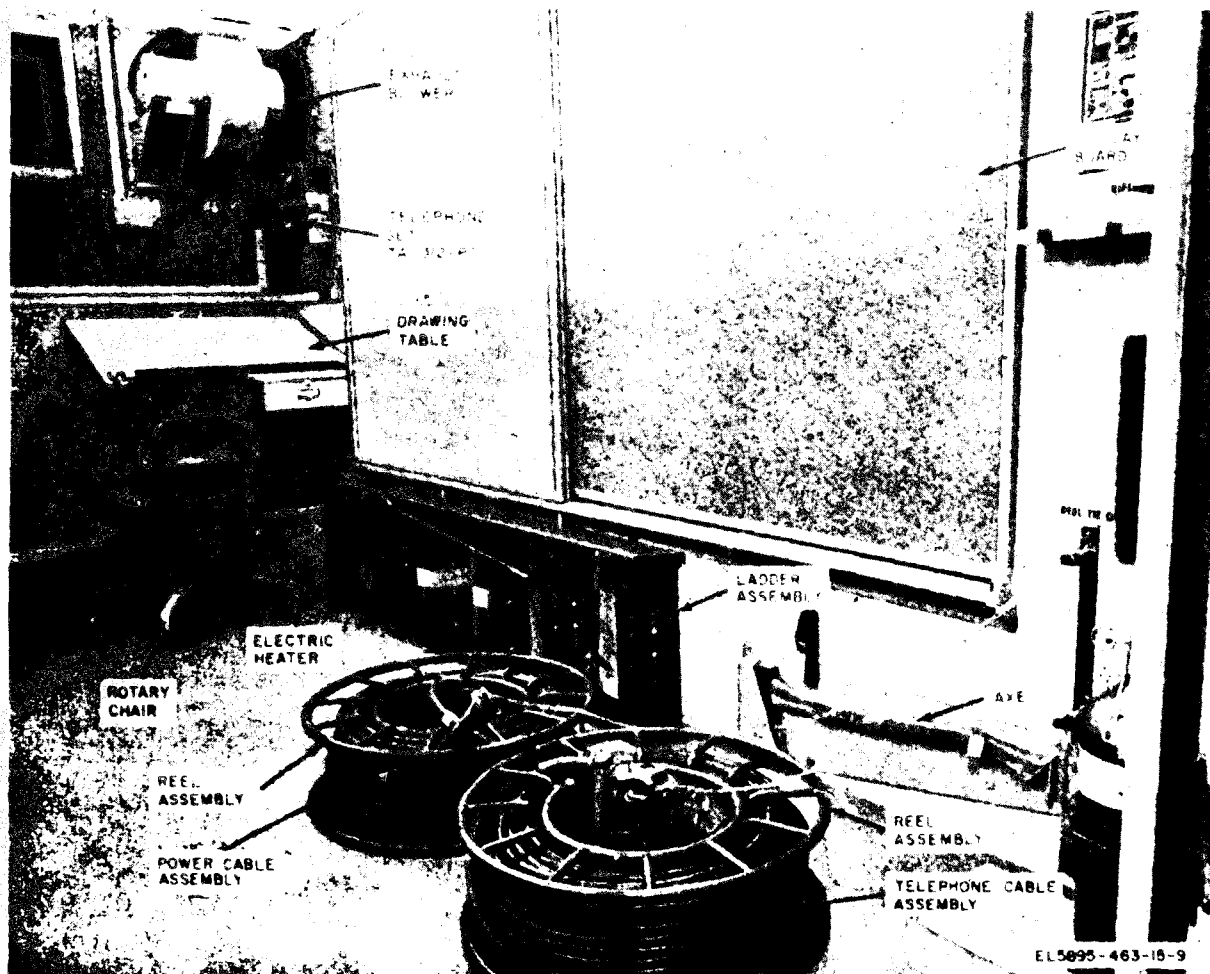

Figure 1-9. Operations Center, Communications AN MSC-11A, interior curbside view.
a. *Electric Heaters (fig. 1-9).* The heaters are secured in their mounting bases on the shelter floor (fig. 5-1). Each heater contains a 1.5-kilowatt heating element and a fan for air circulation. Horizontal louvers on the front of each heater are adjustable to deflect the airstream. Operating controls are located on the top of each heater.
(1) *Power cable assembly and reel (fig. 1-11).* The Cable Assembly, Power, Electrical CX-7453A/U is wound on Reel Assembly RC-435/U which, during transport, is secured to the floor at the front of the shelter (fig. 1-9). It is a 100-foot, 3-conductor cable with a watertight power connector on each end.